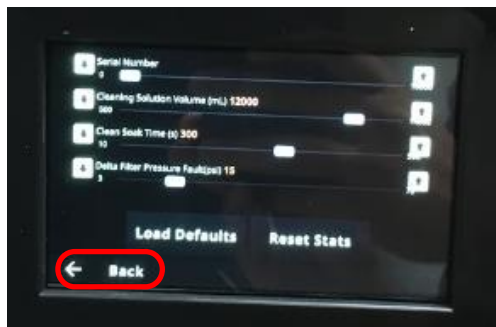

Figure E11: Production Tools Screen with Load Defaults and Reset Stats Circled.
17. Select LOAD DEFAULTS. See Figure E11.